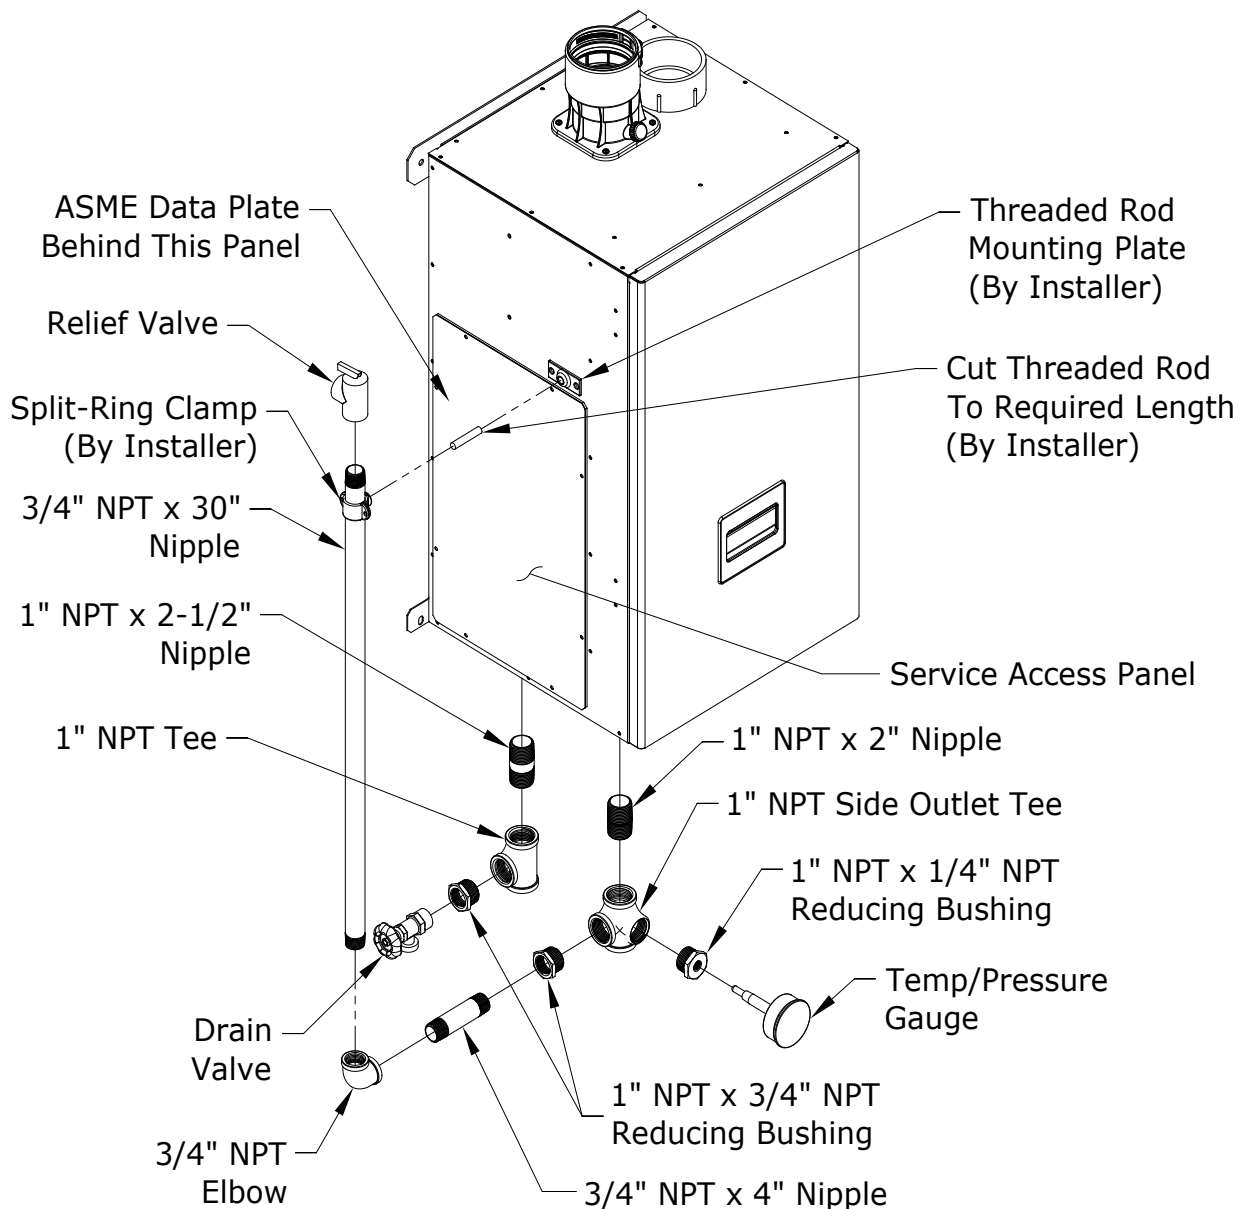

Figure 9.9: Factory Supplied Piping and Trim installation
1. Relief Valve (Required) – The relief valve is shipped loose and must be installed in the location shown in Figure 9.9, using the side outlet Tee and other fittings provided. ASME Section IV currently requires that this relief water or steam will not create a hazard or cause property damage if the valve opens. The end of the discharge pipe must terminate in unthreaded pipe. If the relief valve discharge is not piped to a drain, it must terminate at least 6" above the floor. Do not run the discharge piping through an area that is prone to freezing. The termination of the relief valve must be in an area where it is not likely to become plugged by debris.
The relief valve supplied with the boiler is set to open at 30 psi. If it is replaced, the replacement must have a setting less than or equal to the maximum allowable working pressure (MAWP) shown on the ASME data plate located on the left side of the heat exchanger behind the service access panel (Figure 9.9).
2. Gauge (Required) - Indicates supply water pressure and temperature. This gauge is shipped loose. Install it as shown in Figure 9.9.
10. Drain Valve (required) – Install the drain valve supplied as shown in Figure 9.9.